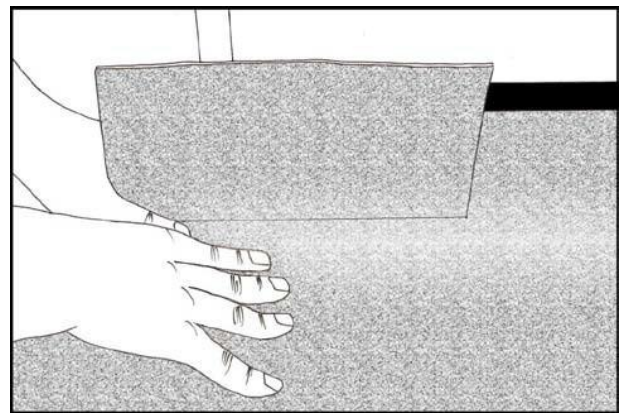

Fig 9.
3. Fold in one side of the infill piece and gradually cut off the surplus material to complete the first part of the mitre. (See Fig 9.)